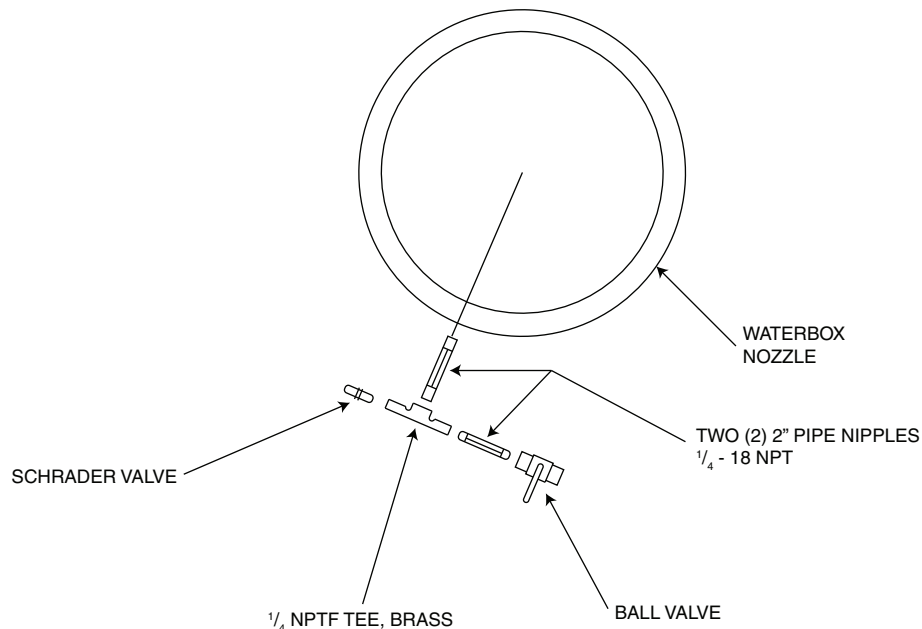

Fig. 45 — Suggested Installation of Pressure Transducers into Water Nozzles Using Flushable Dirt Leg Trap
4. Installation of pressure transducers into water nozzles using flushable dirt leg trap is suggested; see Fig. 45. Pressures can be calibrated between 100 and 250 psig (689.5 and 1723.7 kPa) by attaching a regulated 250 psig (1724 kPa) pressure (usually from a nitrogen cylinder). For calibration, access the Pressure Sensor Calibration Menu from the Maintenance Menu and calibrate the appropriate sensor.